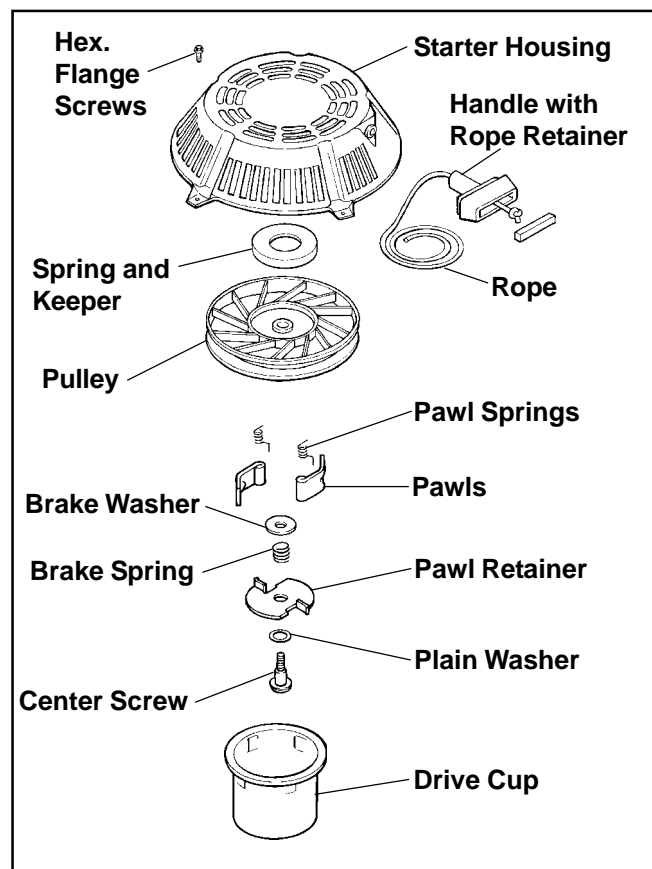

Figure 7-1. Retractable Starter - Exploded View.
2. Replace all worn or damaged components. Use only genuine Kohler replacement parts as specified in the Parts Manual. All components shown in Figure 7-1 are available as service parts. Do not use nonstandard parts.